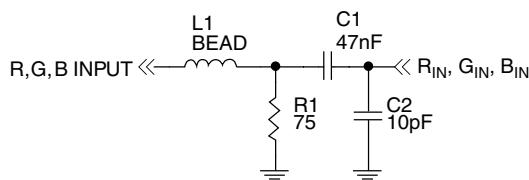

Figure 25. RGB Input Filter Options
5. If necessary, limit bandwidth by adding a ferrite bead in series with each RGB input as shown in Figure 25. A Fair-Rite #2508051217Z0 is recommended. Alternatively, bandwidth reduction using a shunt  $10\text{pF}$  capacitor may reduce snow (intensity noise) caused by HF noise riding on the RGB input. Mismatches, reflections and noise may cause ringing or distortion of the incoming video signals.